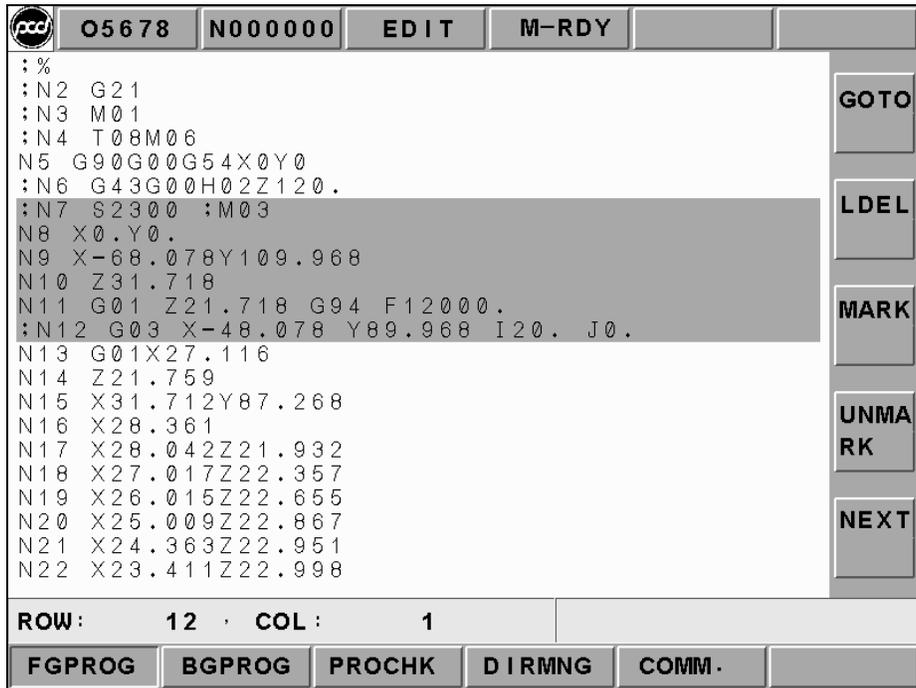

Figure 2.5-3 Screen of Row Position Entry Column
3. **MARK**: pressing **【MARK】** at the right side of the screen to move the cursor to the wanted marking row's starting/ending point. Moving the cursor to the starting/ending position of the wanted marking row and pressing the **【MARK】** function key again to mark the designated marking rows (like Figure 2.5-3).